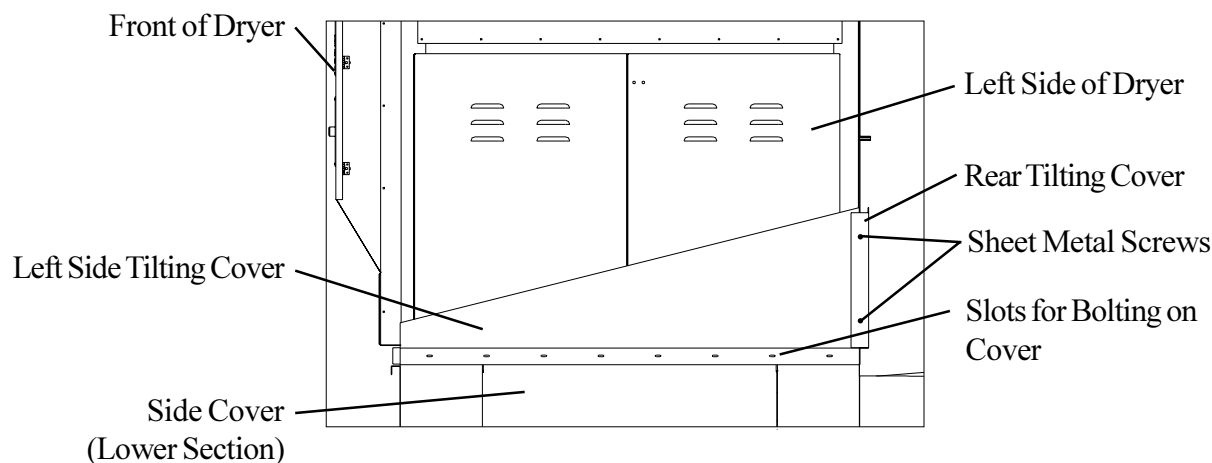

Figure-5A
STEP 14: There are three tilting covers that need to be put in place before operating the dryer. Put the left side tilting cover on the dryer first. The end of the cover that has the angled point goes toward the front of the dryer. When you are holding the left tilting cover the bent flange on the bottom should be bent away from you. Put the tilting cover on the dryer as shown in Figure-5A & 5B. The front edge of the tilting cover should be even with the front of the dryer's frame. You will need to align: the slots in the tilting cover; the
STEP 16: Put on the rear tilting cover. The flange with the slots goes down and the end flanges go on the outside of the side tilting valences (See Figure-5A). Attach the rear tilting cover using sheet metal screws through the slots on the bottom of cover. Attach the ends of the rear tilting cover to side covers using sheet metal screws.